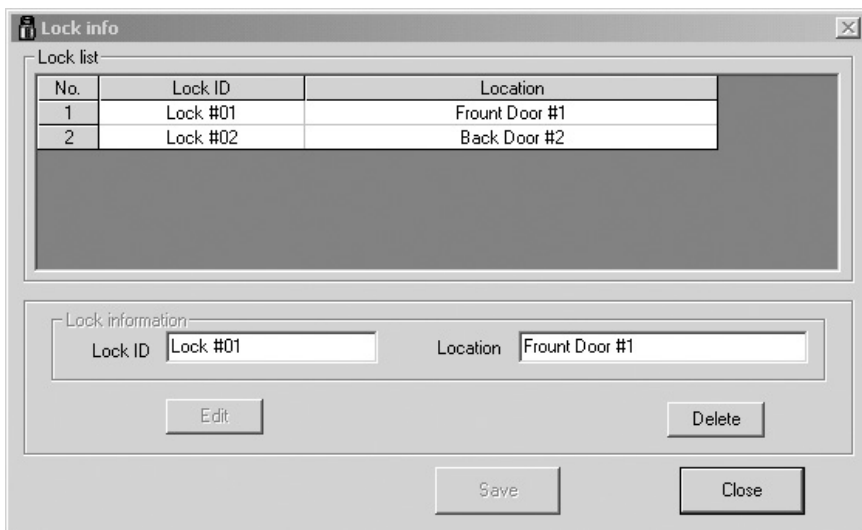

Figure 7
11.3.5. If the lock is communicating with the system for the first time, the “Lock Info” (Figure 7) will automatic pop up. You can click “Edit” to change the lock names and location. Click “Save” to save the setting and close the “Lock Info” window. If you don’t want edit the lock info, click “Close” to close the window.
Note: If the lock already exists in the system, you still can click “Edit” in “Communication” window (Figure 6) to open the “Lock Info” window (Figure 7) for editing.